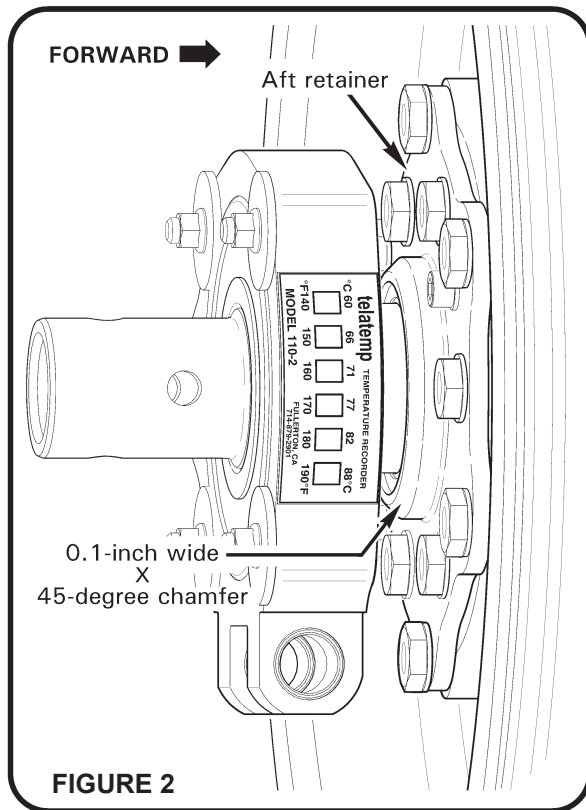

FIGURE 2
3. Refer to Figure 2. If aft retainer does not have pictured 0.1-inch wide X 45-degree chamfer, order:
4. Per R22 Maintenance Manual (MM) § 7.213, remove & discard affected retainer(s).